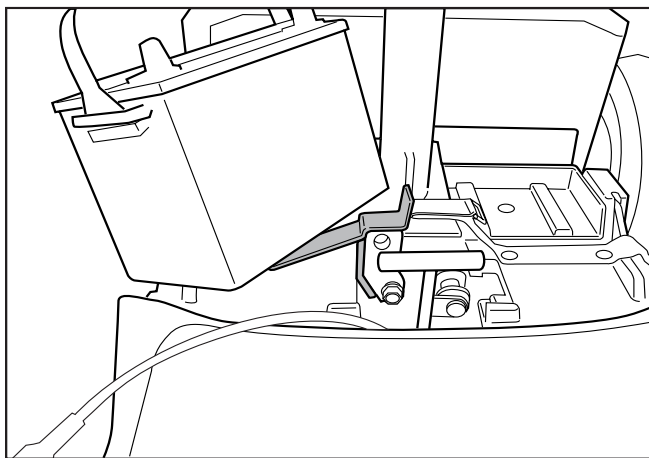

Fig. 28
- 3.** You will notice that you cannot place the batteries into the unit, unless the latch is fully engaged. (Fig. 28)